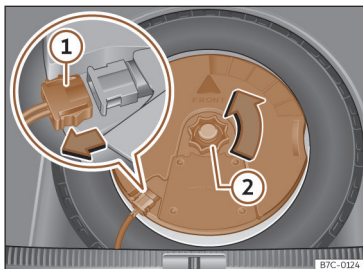

Fig. 206 In the boot: remove the subwoofer.
- Disconnect the subwoofer's speaker cable >>> Fig. 206 ①.
- Turn the securing wheel anti-clockwise >>> Fig. 206 ②.